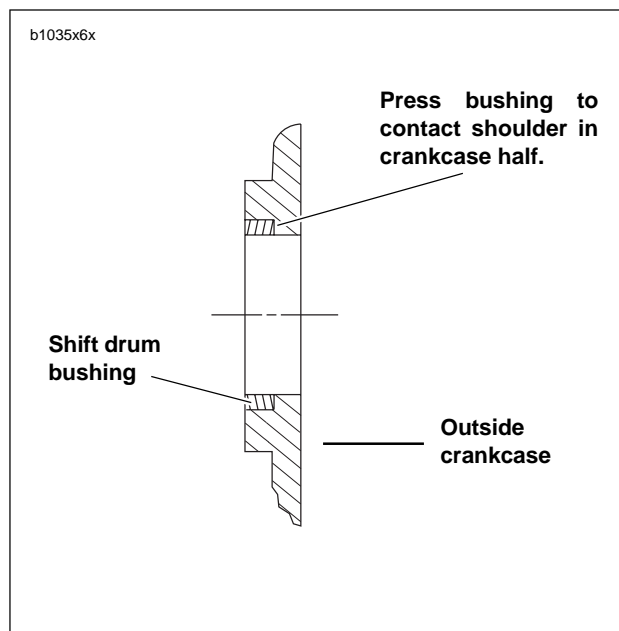

Figure 6-78. Shift Drum Bushing Assembly
2. See Figure 6-78. Lay bushing squarely over bore. Using a pressing tool larger than diameter of bushing, press bushing into bore until bushing contacts shoulder in left crankcase half. If using a pressing tool larger than diameter of bushing, the pressing tool will bottom against crankcase when bushing is flush with top surface.